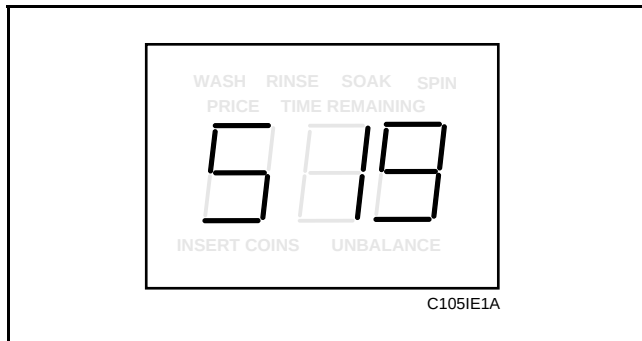

Figure 40
2. While pressing and holding the PERM PRESS keypad with one hand, press the COLD keypad with the other hand. Programmable option number one, “Slg”, will appear in the VFD. See **Figure 40**.